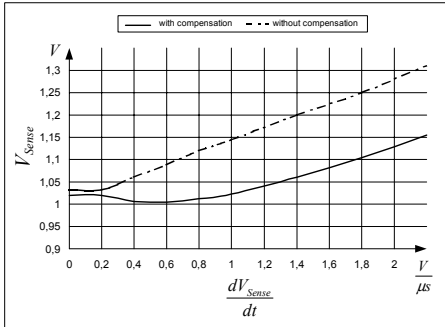

Figure 13 Overcurrent Shutdown
E.g. $I_{peak} = 0.5A$ with $R_{Sense} = 2$. Without Propagation Delay Compensation the current sense threshold is set to a static voltage level $V_{csth} = 1V$. A current ramp of $dI/dt = 0.4A/\mu s$, that means $dV_{Sense}/dt = 0.8V/\mu s$, and a propagation delay time of i.e. $t_{Propagation Delay} = 180ns$ leads then to an I_{peak} overshoot of 12%. By means of propagation delay compensation the overshoot is only about 2% (see Figure 13).